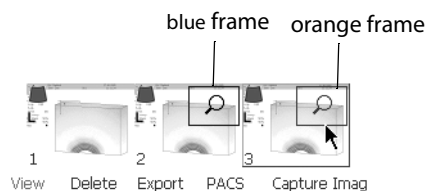

Figure 6-5. Two magnifying glass icons. Document 2 is being viewed.
**Frame Color** When two magnifying glass icons are visible (as in Fig 6-5), one has an orange frame and one has a blue frame. The blue-framed icon indicates the document being viewed.
In Fig 6-5, Document 2 is being viewed. If you click where the pointer is, Document 3 replaces Document 2 in the image area, and the magnifying glass icons change as illustrated in Fig 6-6.